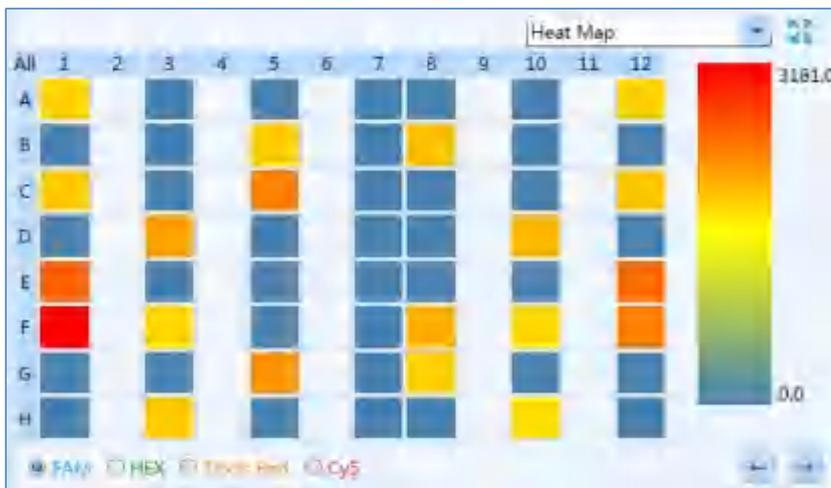

Figure D-6.6. Run Monitoring interface - Heat Map function module
- Heat Map:** display the real-time fluorescence heat map of the current running experiment, as shown in figure D-6.6.